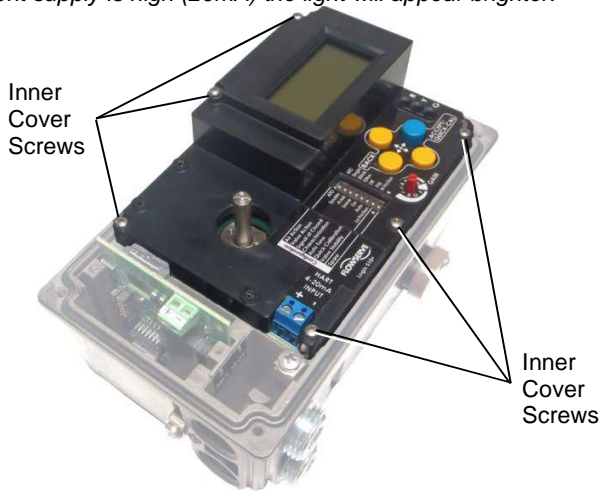

Figure 48: Inner Cover
- 8 Remove the inner cover by removing the 6 inner cover retaining screws. See Figure 48.
- 15 Remove the inner cover. See Figure 48: Inner Cover above.
- 19 Remove the inner cover by removing the 6 retaining screws. See Figure 48: Inner Cover.